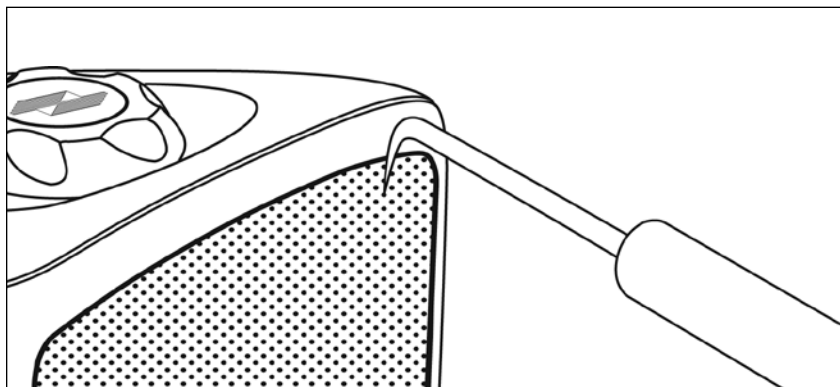

Figure 9. Removing the grille using an awl.
1. *Separate the parts of the loudspeaker. You should remove the brackets and the bracket knobs. Remove the grille by hooking it with the tip of an awl and pulling it away from the cabinet (see **Figure 9** on the next page).*